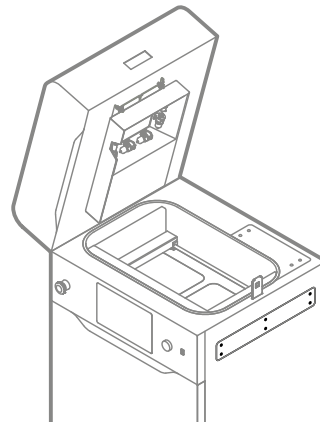

Fig. 12.78 Tighten back six screws of the access panel.
17. Using a 2.5 mm allen key, tighten back the six screws securing the access panel on the right side of the printer (fig. 12.78).